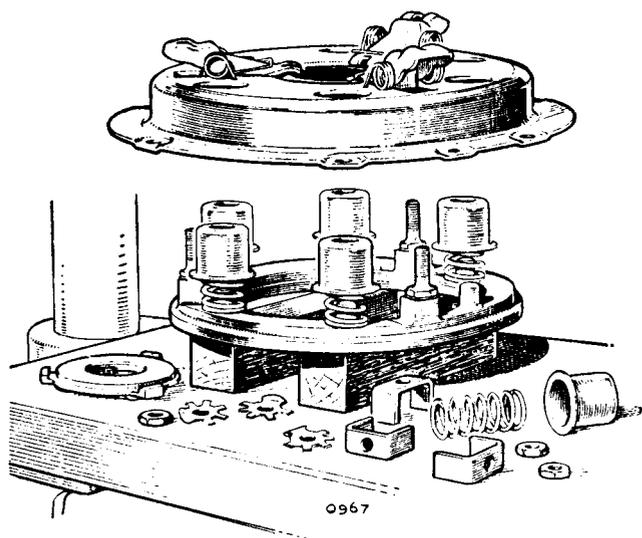

Fig. E.4
- (1) Lay the pressure plate ( $\tau$ ) on the wood block in the press and place the springs on it in a vertical position, seating them on the small locating bosses on the pressure plate. Now place the spring cups over their outer ends, as shown in Fig. E.4.
- (2) The levers ( $N$ ) can then be mounted on the knife-edge fulcrums ( $o$ ) by slipping the inner ends of the release levers under the retainer springs ( $M$ ), taking care that the release levers are properly
- (3) The cover can now be laid on top of the assembled parts as shown in Fig. E.4, taking care that the machined portions of the pressure plate lugs are directly underneath the slots formed in the clutch cover.
- (4) Place three blocks of wood to form a bridge, the legs of which should rest on the outer rim of the clutch cover (as used in the dismantling operation). The assembly is then slowly compressed, the pressure plate lugs being guided through the slots formed in the clutch cover. Care must be taken that the thrust springs remain correctly on their seats on the pressure plate.
- (5) Holding the clutch under compression, the bearing plate ( $s$ ) and tag lock washers ( $P$ ) are then placed in position on the shoulder studs ( $Q$ ). The adjusting nut ( $R$ ) can then be screwed down on the shoulder stud until the nut is flush with the top of the stud.
- (6) The clutch unit may now be removed from the arbor or drill press and the final setting of the release levers carried out by use of the special Service tool (No. 38446) as detailed in Section E.5.
- (7) The release lever plate ( $\kappa$ ) should then be assembled to the release levers, taking care that the projecting portions engage properly in the slots formed in